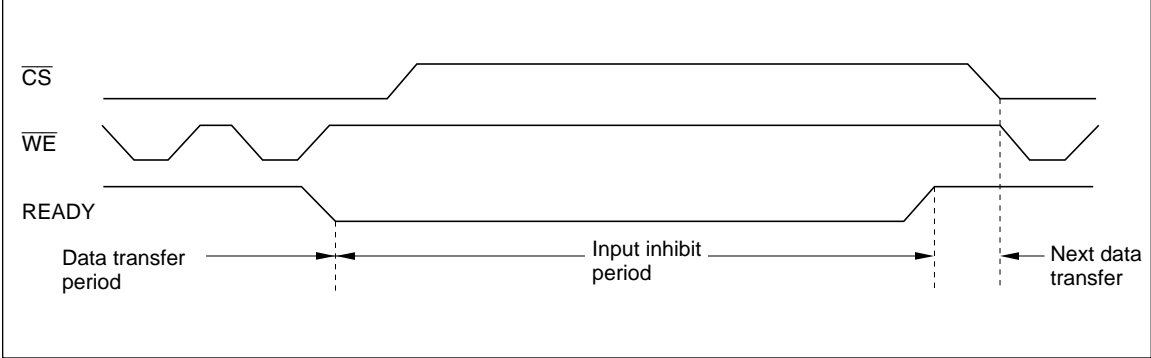

Figure 12 READY Output Timing (When It Is Always Available)
- a. READY is mode always available (figure 12).